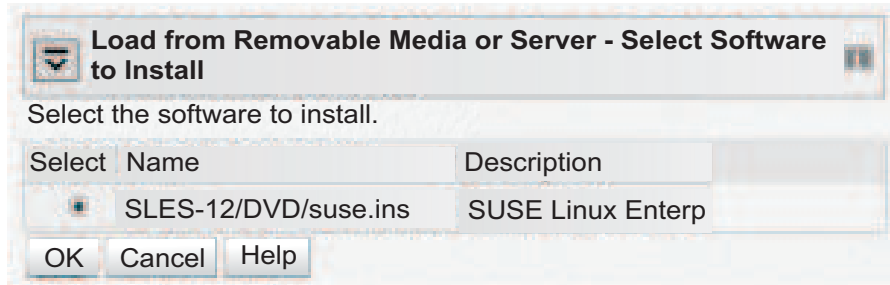

Figure 20. Select Software to Install panel
5. Click **Continue** to display the Select Software to Install panel (Figure 20 on page 70).